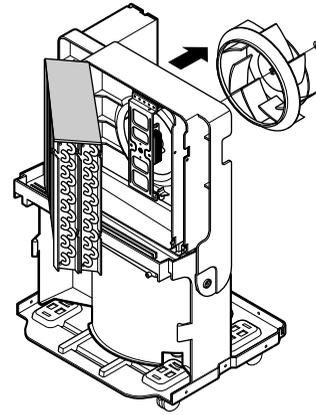

Figure 21
3. Lift the H/E and open the H/E around 45 degree clockwise carefully. (See Figure 21)